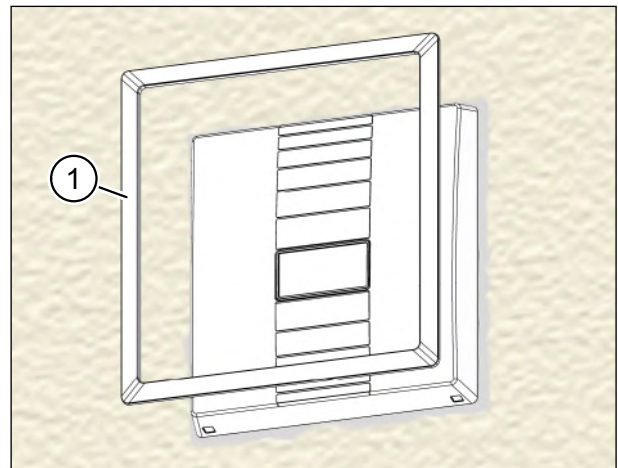

Fig. 33: Attaching the blind frame
- ▶ Push the blind frame (item 1 in Fig. 33) over the installed ventilation unit until it lies against the internal wall.